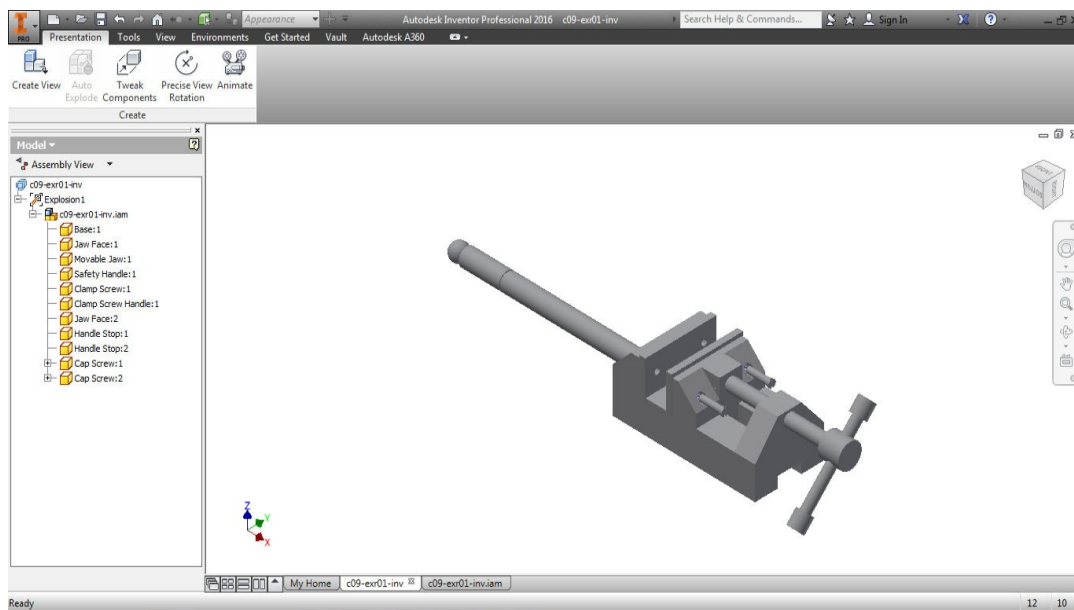

Figure 13-21 Assembly after tweaking the components
9. Choose the **Cancel** button to exit the mini toolbar. Now, choose the **Zoom All** button from the **Navigation Bar** to increase the drawing display area and fit the assembly into the current view. The assembly after tweaking is shown in Figure 13-21.